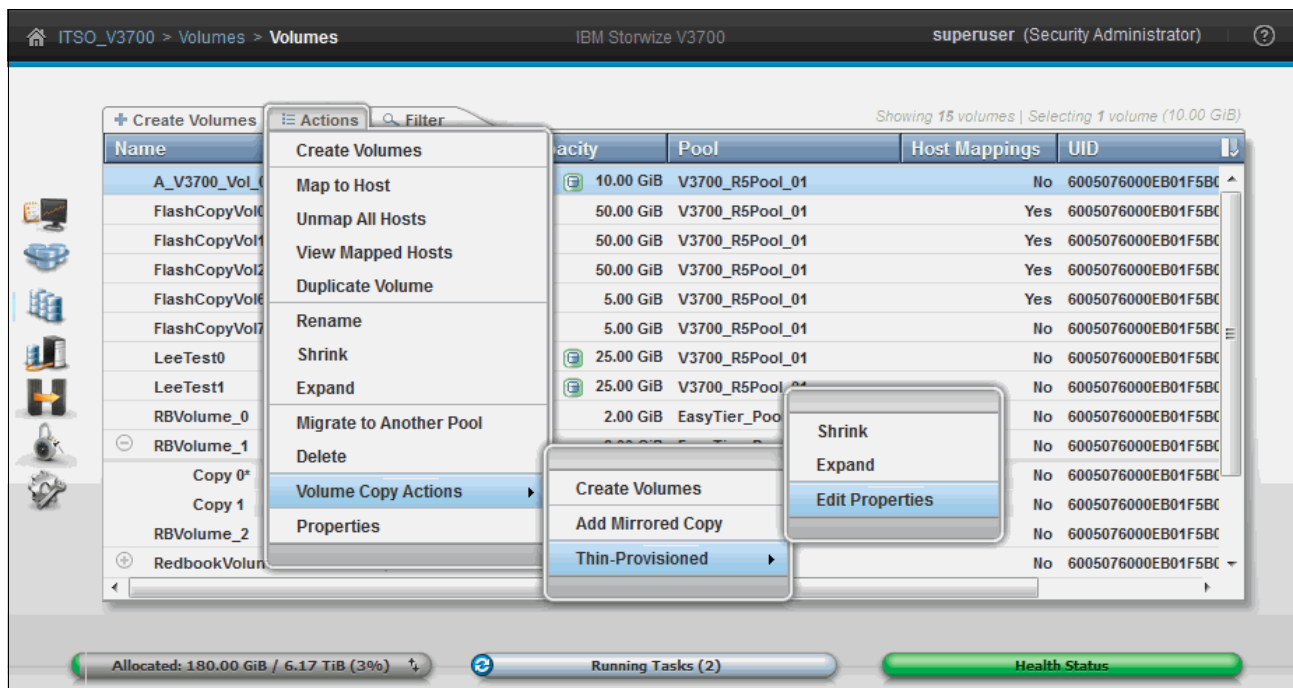

Figure 8-41 Action menu for a volume
3. Right-click a volume, or select a volume and open the **Actions** menu, to display the available actions for a volume, as shown in Figure 8-41.